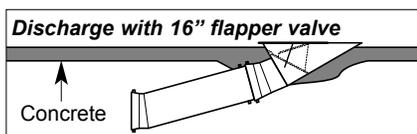

fig. 6
- The **discharge with 16" flapper valve** — see *fig. 6 and page 20*.